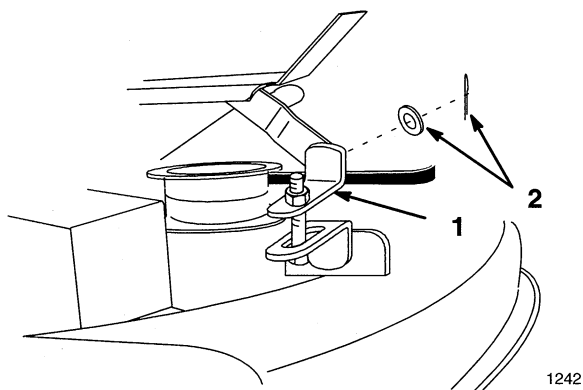

Figure 14
4. Remove hairpin cotter and washer from front adjustable link and remove from front lift arm (Fig. 14).